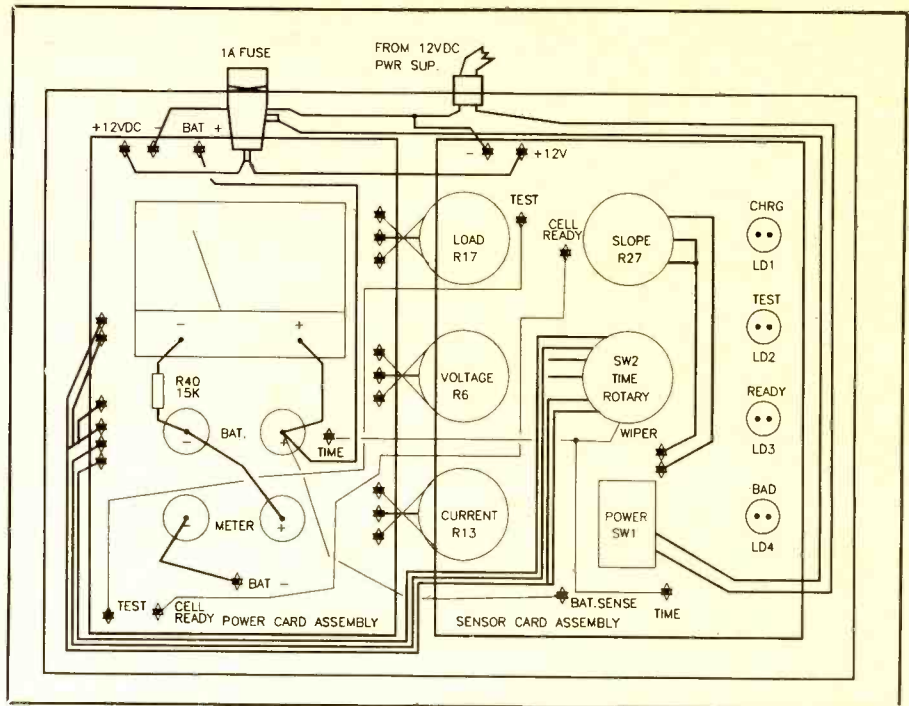
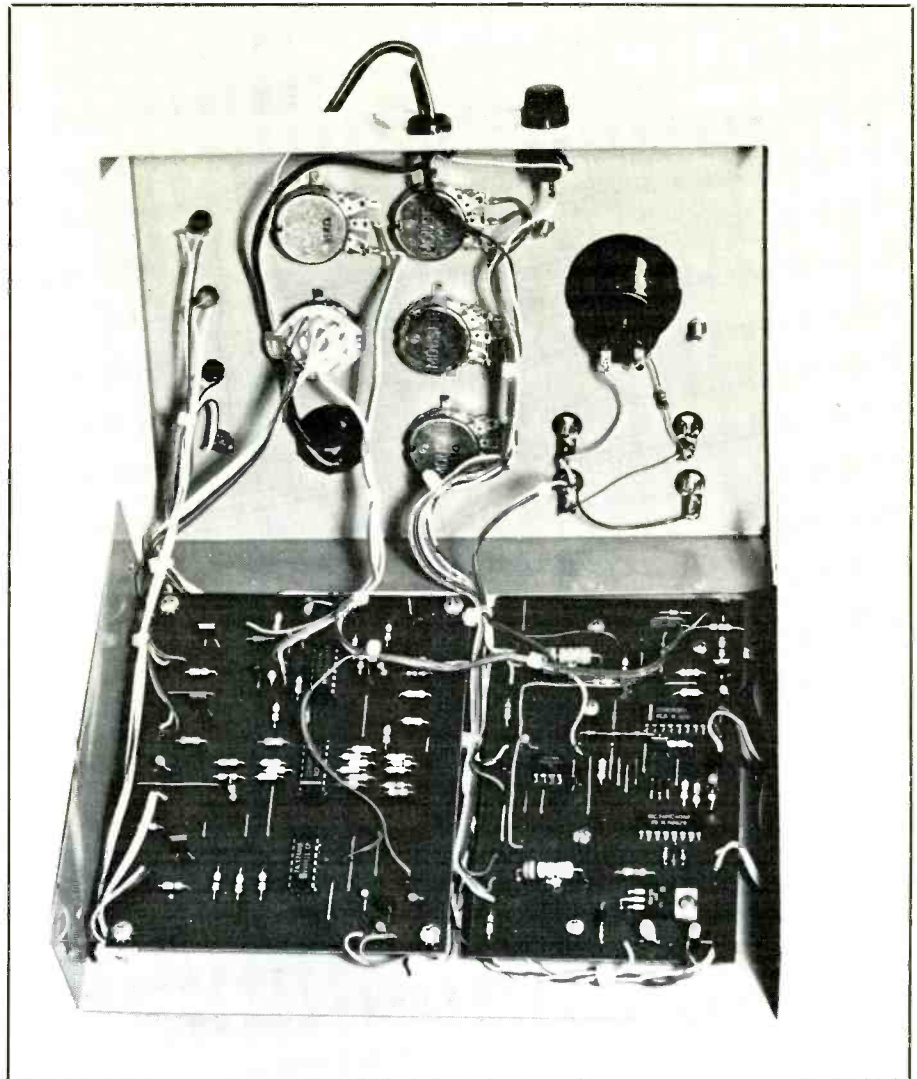

Fig. 5. Overall wiring details for interconnecting all components that make up the Super-Charger.
Fig. 6. Interior view of completed Super-Charger prototype.
• *Output Range Considerations:* Looking at Fig. 5 and Fig. 6, you can see that the both the choice of load resistor and the frequency determine the maximum peak-to-peak output voltage. If the load is less than 2,000 ohms (Fig. 5), peak-to-peak output drops rapidly. A 200-ohm load permits only about 10.5 volts peak-to-peak output before distortion occurs.
Now look at Fig. 6. Notice that the maximum output curve falls off very rapidly after 10 kHz. Note, too, that
ly ± 5 volts. Data presented in **Fig. 5** and **Fig. 6** are also related to supply voltage. If you use the device less than ± 12 volts, you should develop your own data for output voltage range and frequency response.
Now, referring to Fig. 5, finish wiring the circuitry. Use appropriate lengths of hookup wire for each in-
When you're done wiring the project, neatly dress all wiring. Use small plastic cable ties or waxed lacing cord to collect the wiring into neat bundles, as shown in the completed project pictured in Fig. 6. Then tighten the mounting hardware for circuit-board assemblies.